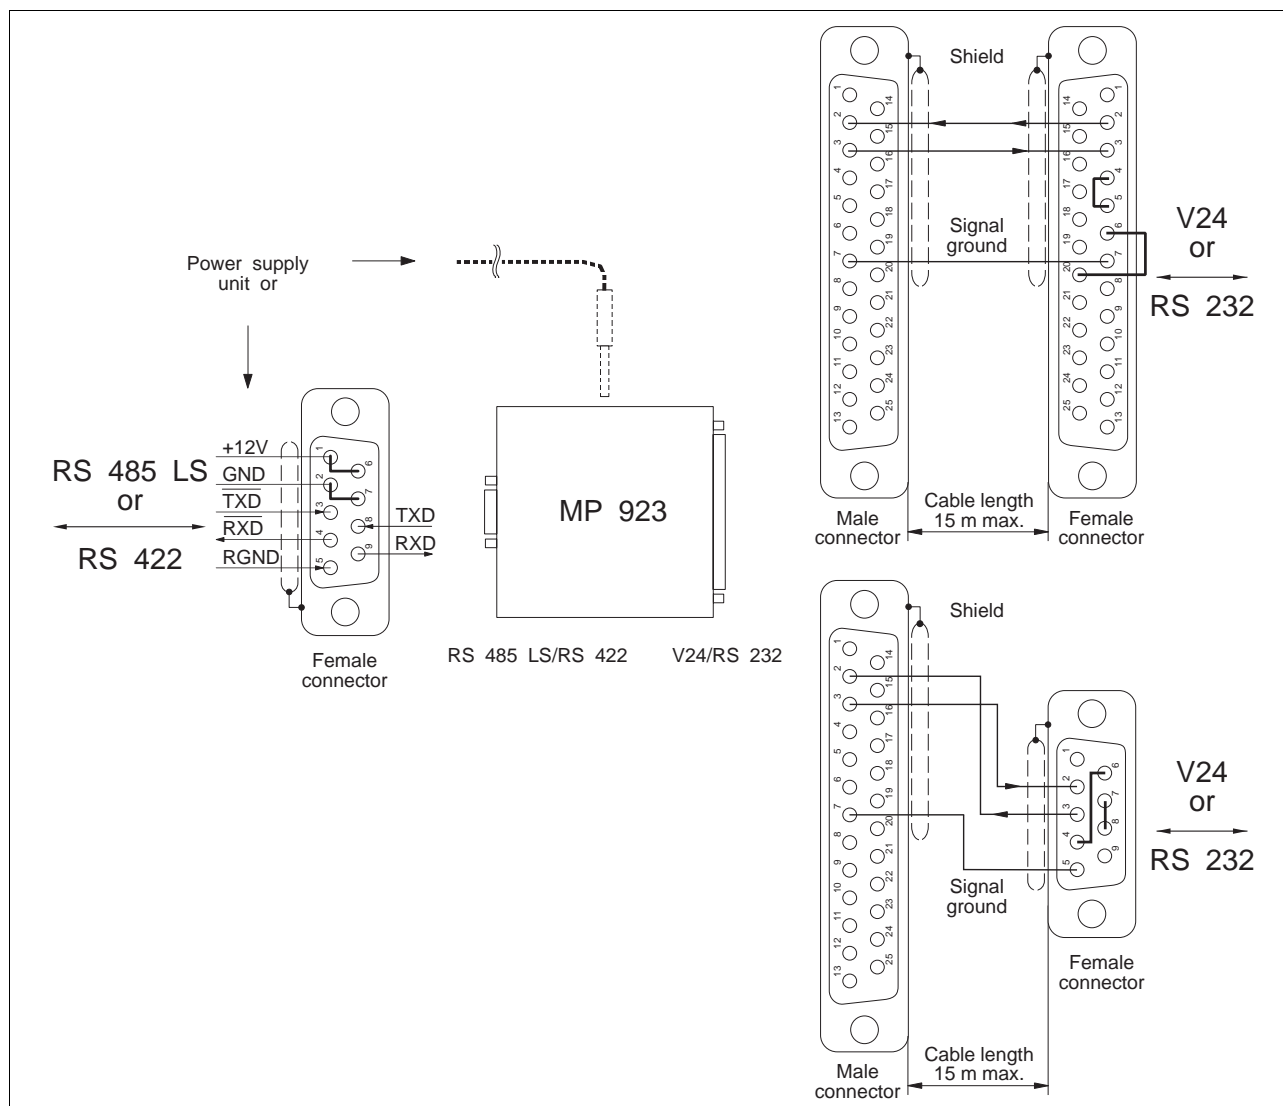

Fig. 6-6 Interface converter wiring
1. Wire the MP 923 interface converter in accordance with fig. 6-6.